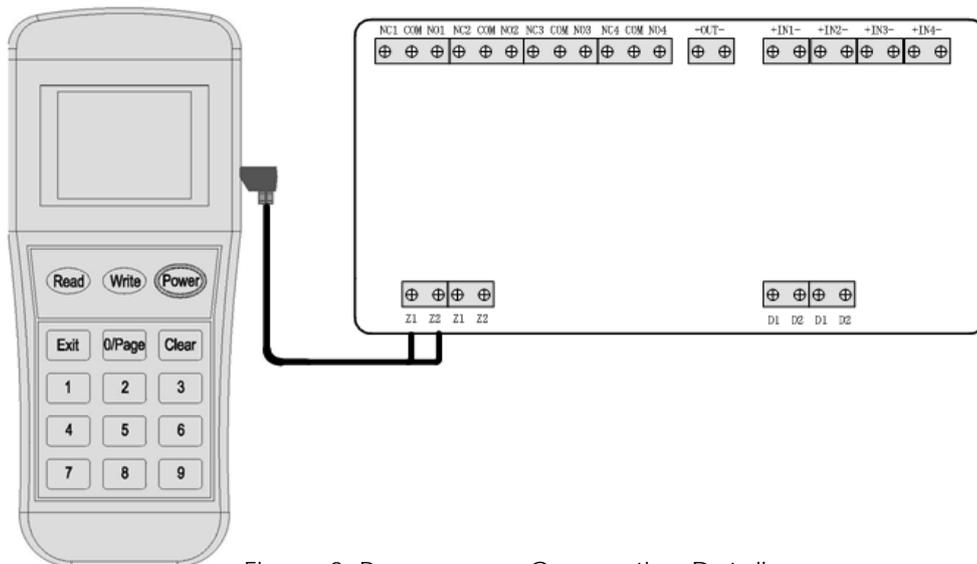

Figure 3: Programmer Connection Details
1. Connect the programming cable to Z1 and Z2 terminals (Figure 3). Press **"Power"** to switch on the unit.